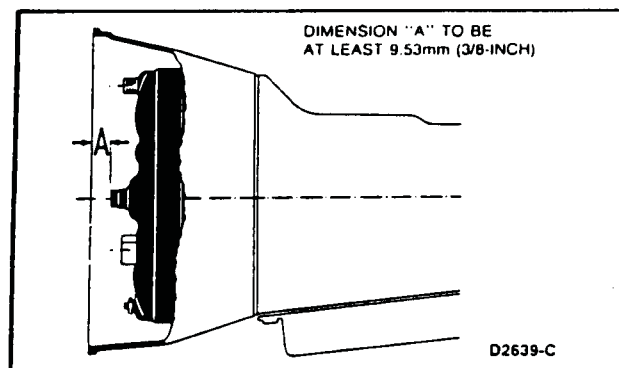

FIG. 7 Converter Hub to Housing Flange Position
2. Position the converter to the transmission making sure the converter hub is fully engaged in the pump gear (Fig. 7). **The dimension shown in the illustration is for guidance only. It does not indicate engagement.**